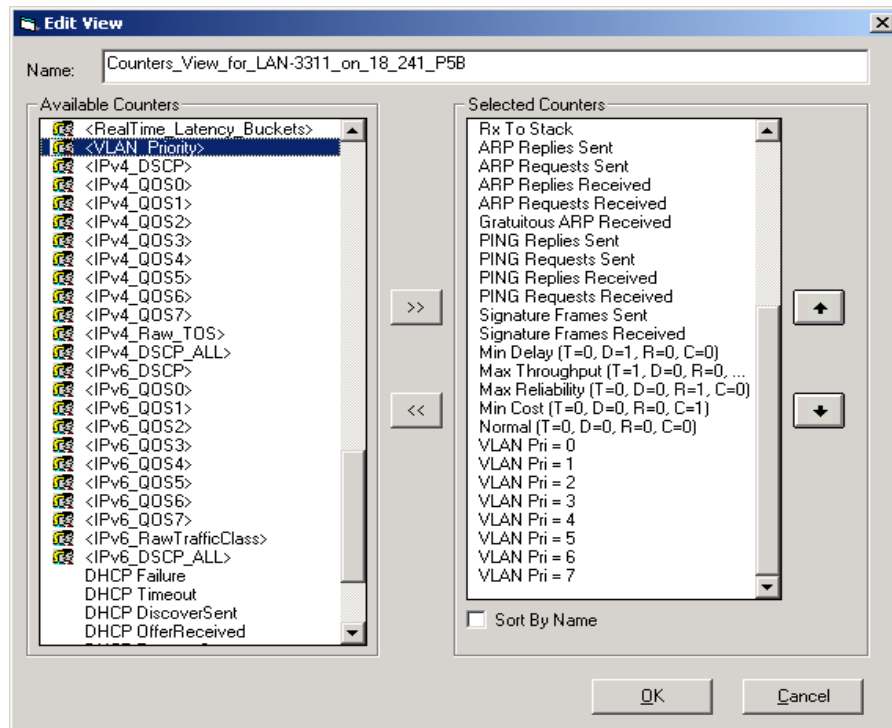

Figure 8-63. Edit View
- 5 Return to the *View Organizer* window, select a counter layout file, and click the **Edit** button to see a double-paned window titled *Edit View*. Use this window to edit an existing layout that is used in the *Port* and/or *Stream Statistics* window. (Refer to *Figure 8-63 on page 421* for a sample illustration of this window.)